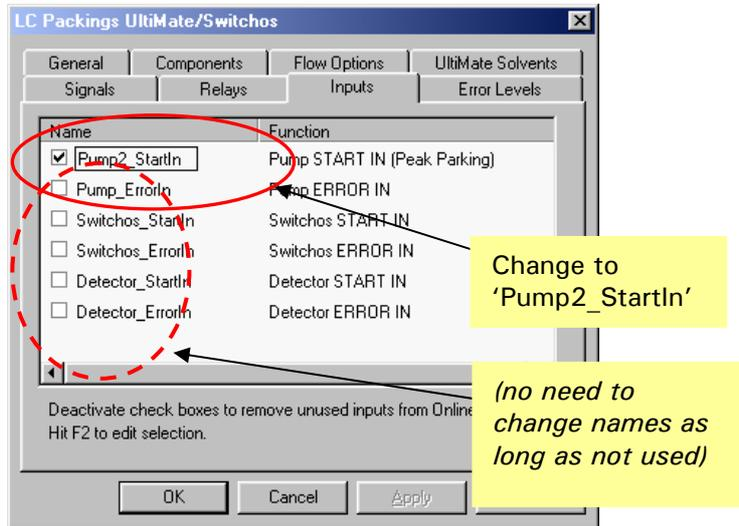

FIGURE B-14 Configuration of the UltiMate/Switchos components
j) Rename the START IN input on the *Inputs* tab to 'Pump2_StartIn' (FIGURE B-14).